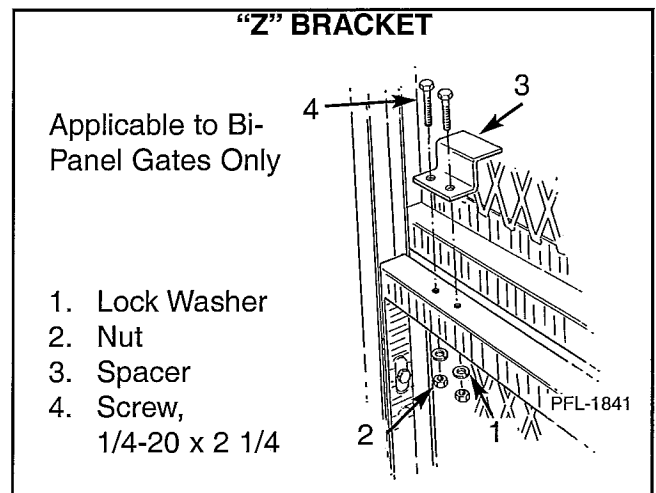

Figure 3
1. Attach gate components to the panels as shown. See Figures 3, 4, and 5.